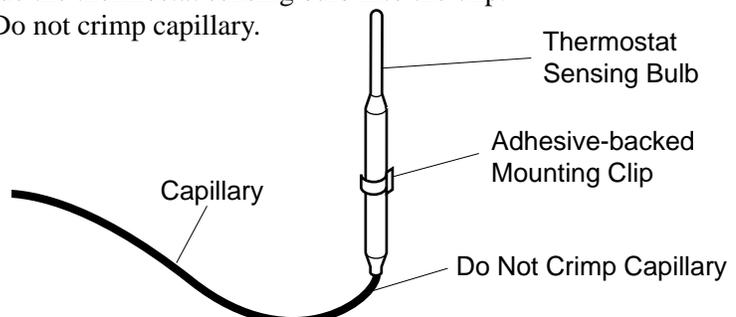

Figure 33 - Positioning the Thermostat Sensing Bulb in the Vertical Position with the Capillary at the Bottom
5. The mounting clip must be a minimum of 3" from bottom of fireplace to prevent crimping of capillary. Once you have decided on a location, clean the area thoroughly. Remove the paper backing from the adhesive on back of mounting clip. Press the clip into the new location so that the thermostat sensing bulb will be positioned vertically with the capillary at the bottom (see Figure 33). Slide the thermostat sensing bulb into the clip.